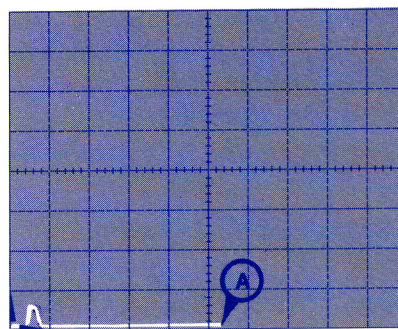

Figure 6-1. Display of offset voltage V_T . Point **A** is peak-point.
- 5) Find peak point — Find extreme point at right at which trace switches from mostly horizontal to mostly vertical. This is peak-point. See Figure 6-1.